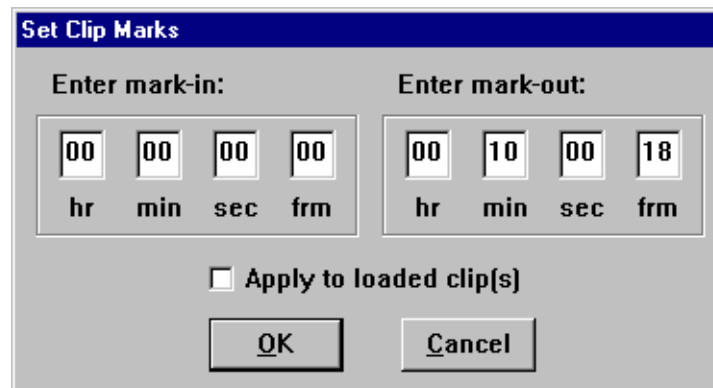

Figure 77. Set Clip Marks dialog box
2. Choose **Controller | Clip Length**. The Set Clip Marks dialog box appears (Figure 77).